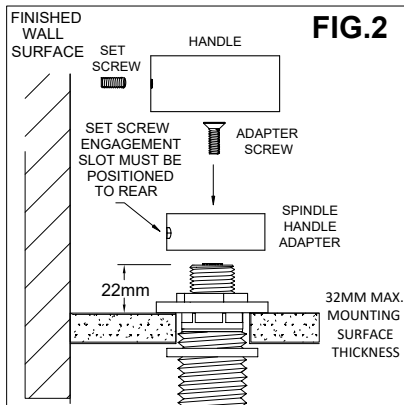

FIG.2
- Fit the Spindle Lock Flanges to secure the assembly to the mounting surface. (See Fig.2)
- Ensure the distance from the Top surface to end of Spindle is 22mm (as shown). Adjust if necessary. (See Fig.2)
**HANDLE INSTALL (See Fig.2)**